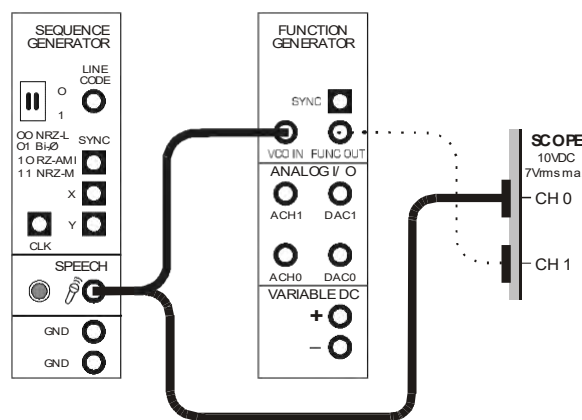

Figure 4
16. Connect them to the Speech module's output as shown in Figure 4 below.